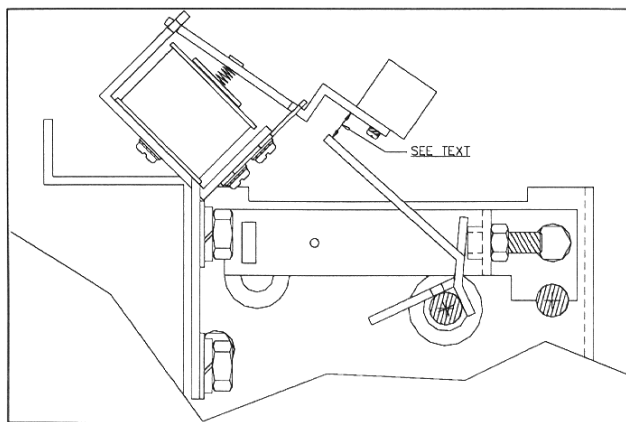

Figure 3. Trip Lever Gap Adjustment
(1) Vacuum Interrupter
- Measure and record the height of the opening springs (b, Figure 3, IB-60010).
The closing coil is located in the lower front center of the circuit breaker. See Figure 3, Page 4 of IB-60010. To replace it:
This assembly is located in the center part of the mechanism area, just to the left of the main closing spring. See Figure 3, Page 4 of IB-60010. To replace it:
- f. Check the time interval from energization of the trip coil (at nominal control voltage) to the parting of the main contacts of the circuit breaker. This time must be within 40 to 55 milliseconds. If necessary, bend the trip lever slightly to achieve this setting. See Figure 3.